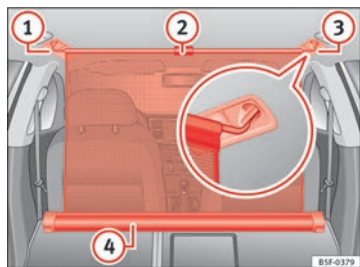

Fig. 103 In the luggage compartment: net partition hooked into the rear seat backrests.
- Pull up handle ⇒ Fig. 103 ② to remove the net from the casing
⇒ Fig. 103 ④.
- Hook in the net partition on the right side ⇒ Fig. 103 ③ (magnified image).
- Hook in the net partition in the left side housing ⇒ Fig. 103 ① pulling the rod.
The net partition is properly assembled when the T-shaped ends are firmly secured in the corresponding housings ⇒ Fig. 103 ③ and ①.
- Roll up the net into the casing ⇒ Fig. 103 ④ lowering it with your hand.